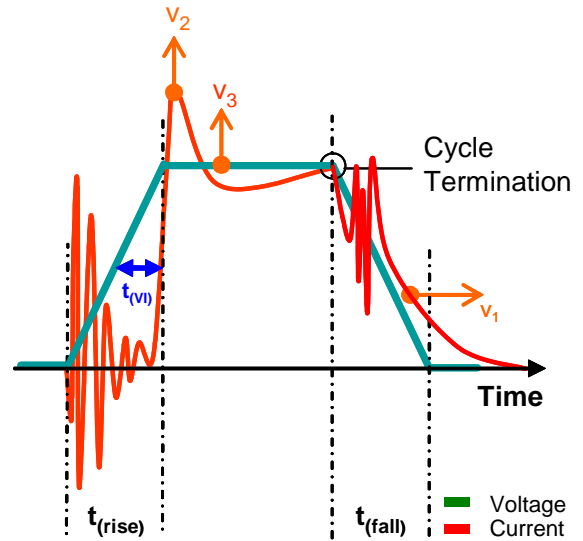
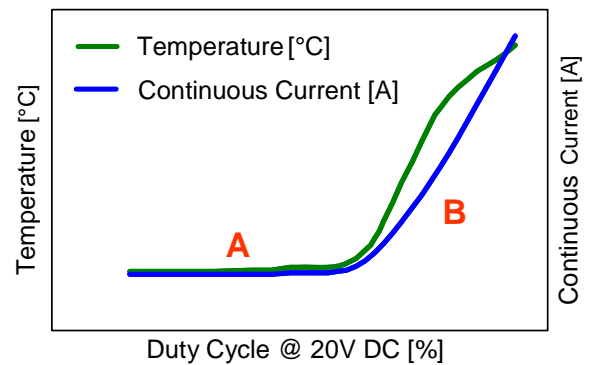

Figure 8. Voltage (green) and current (blue) during a PWM pulse over energizing a motor winding
Figure 9. Temperature and continuous current vs. PWM duty cycle during a stalled motor operation
In these modes of operation,  $t_{vi}$  becomes smaller and a high current peak appears at the raising edge of the PWM pulse as shown in Figure 8. The more the supply voltage  $v_3$  increases the higher the current peak  $v_2$  will be. This current peak can reach multiples of the continuous current.
The plots in Figure 9 depict the relationship between duty cycle, continuous current and temperature at a supply voltage of 20 V DC.
By separating the performance graph in Figure 9 into two parts, the balanced operation (A) and the over energized operation (B) can be better analyzed. During balanced operation, the current and voltage waveforms follow the relationships shown in Figure 5. The phase shift  $t_{vi}$  increases so that the continuous current and temperature increase only slightly. When the motor winding starts being over energized (B),  $t_{vi}$  decreases rapidly as shown in Figure 8. The current peak at the rising edge of the PWM cycle increases the total average current and the thermal load. Over energized conditions normally happen in the 60-70% duty cycle range. This range corresponds with the knee of the curves in Figure 9. The exact point is dependent on both the quality of the motor and the operating condition. The operating condition with the expected maximal thermal load and its maximal time interval is the basis for the selection of the best mounting technique and heat sinking method.